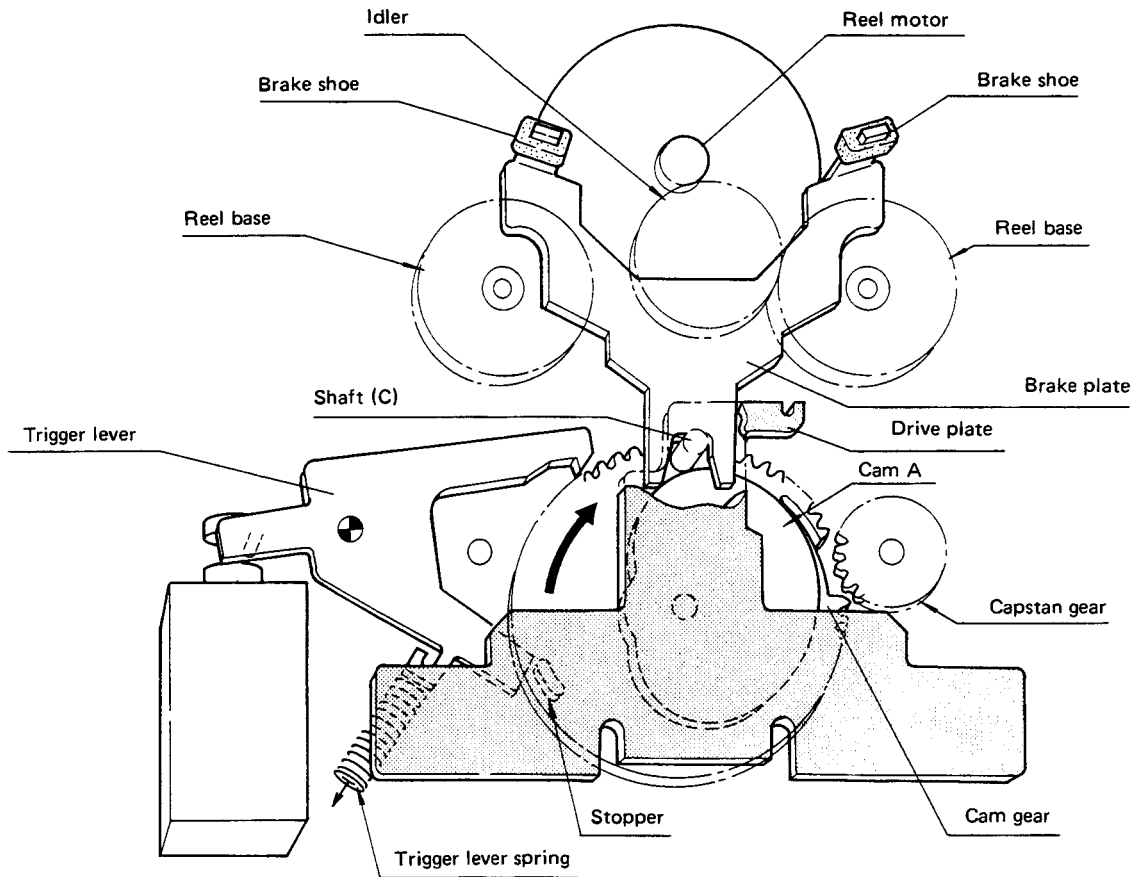

Fig. 1-8 Reel brake release and reel take-up torque generation
The brake plate, too, is pushed up at this time by shaft (C) on the drive plate, thereby separating the brake shoe from the reel base to release the brake (see Fig. 1-8).
When current to the assist trigger solenoid is switched off, the trigger lever spring dislodges the end of the trigger lever from the cam gear stopper. Since shaft (C) of the drive plate is pressing against the cam surface at this time, the cam gear is rotated and engaged with the capstan gear (see Fig. 1-8).